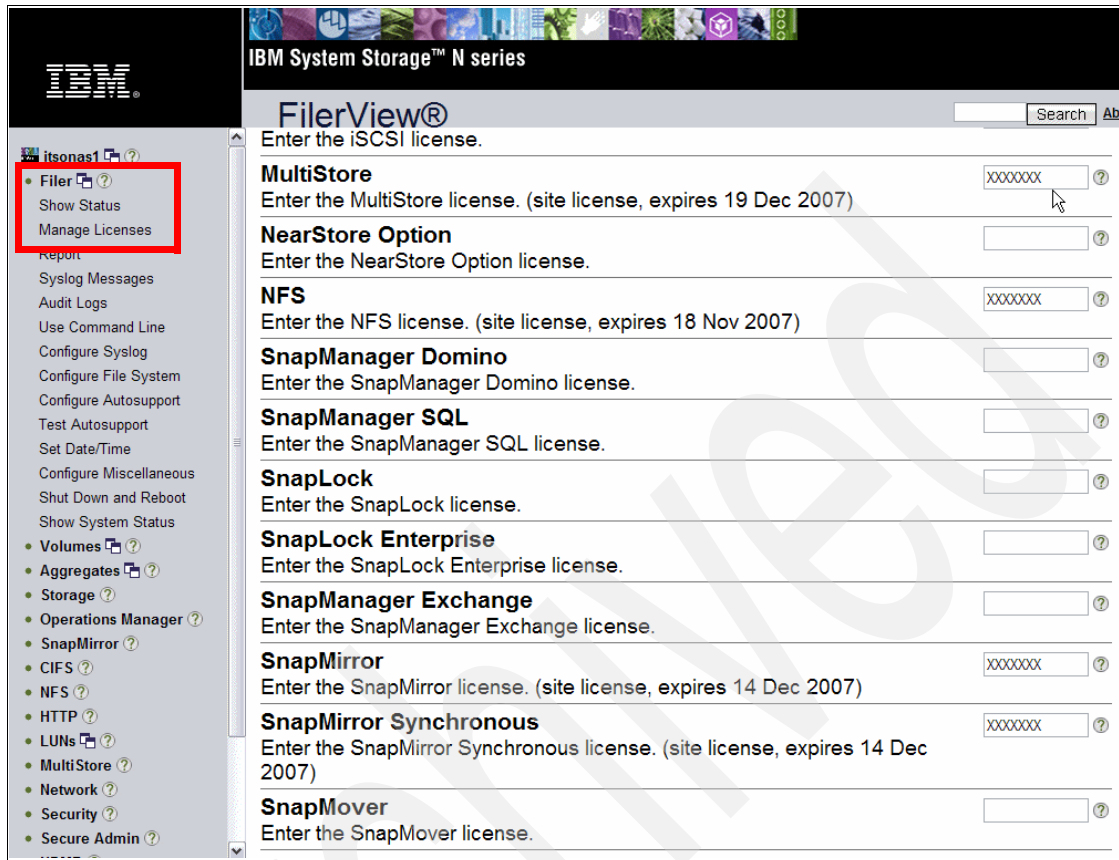

Figure 9-17 Adding Multistore License
We put Multistore licenses in both nodes of the cluster, as shown in Figure 9-17 on page 310.
1. Select **Filer** → **Manage Licenses**, as shown in Figure 9-17 on page 310.